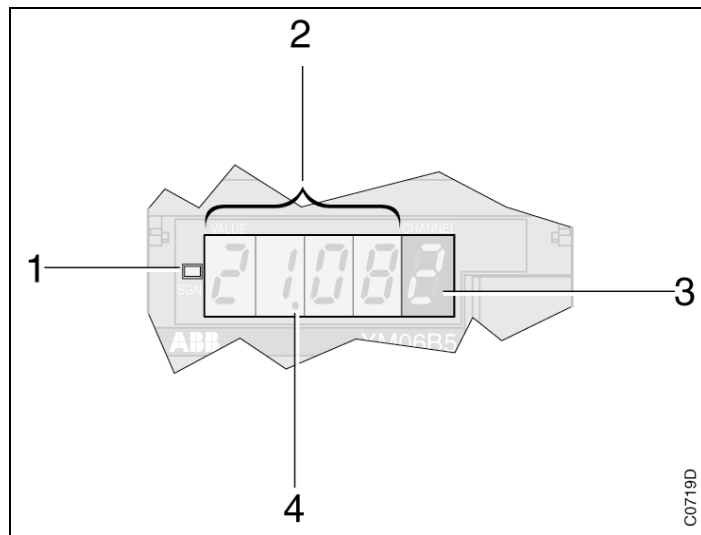

Figure 2-8: Display description
**Description of the analog display, see Figure 2-8 on the previous page**